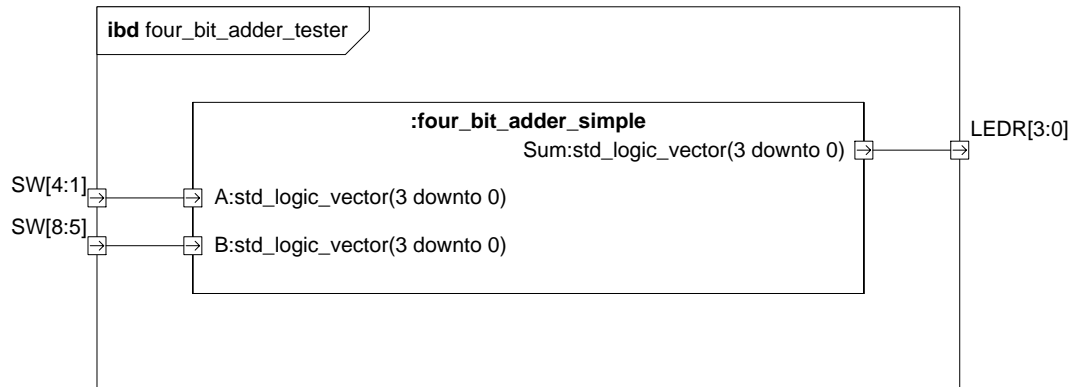
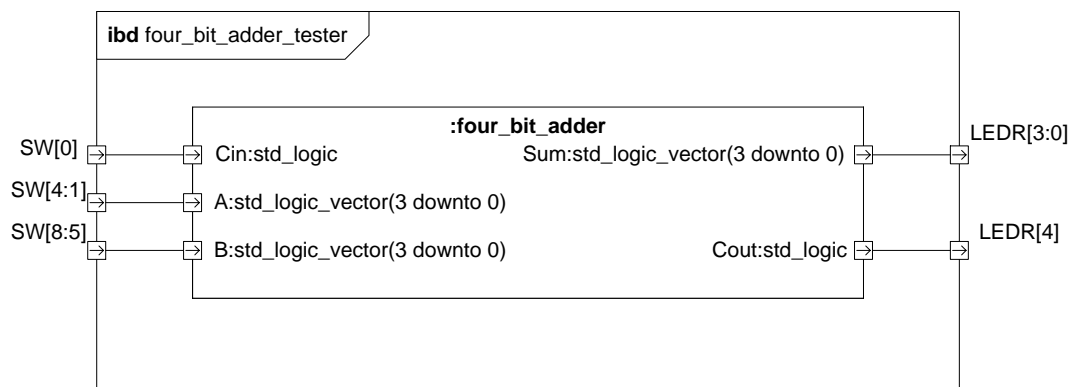

FIGURE 1: 4-BIT ADDER SIMPLE
FIGURE 2: 4-BIT ADDER WITH CARRY
- 1) Start out by implementing a 4-bit unsigned adder with an interface as depicted in figure 1. Use the '+' operator and the appropriate `unsigned()` / `std_logic_vector()` functions to cast between types. Name your architecture "unsigned_impl".
- 7) The adder in figure 1 easily overflows. We need additional carry in- and out logic to support larger numbers. You must extend the unsigned adder to support this as depicted in figure 2. Note that you must use the *resize()* function to change the bit size of vectors before adding them together. Also note that *std_logic* ports are not vectors and therefore cannot use *resize()*, concatenation must be used instead.